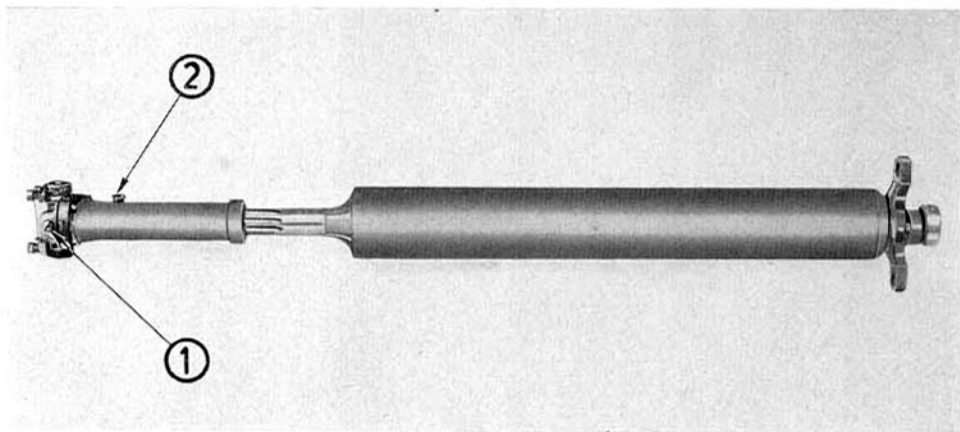

Fig. 43 - Propeller shaft with joints.
Pump Retinax A grease into the sliding coupling (2) fig. 43. Remove screw (1) fig. 43, fit a grease nipple in its place, and pump the same type of grease into the universal joint, and also into the ball pin flange centering the prop shaft.